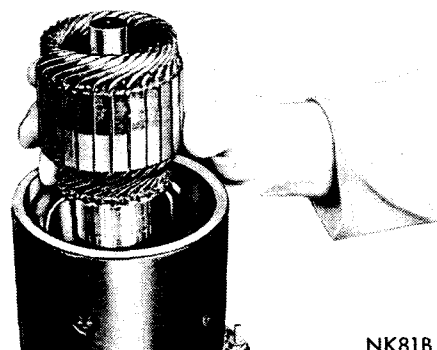

Fig. 31—Installing Armature
- (18) Position field frame to the exact position on gear housing and enter armature into field frame and starter gear housing (Fig. 31) carefully engaging splines of shaft with reduction gear by rotating armature slightly to engage the splines.
- (19) Install thrust washer on armature shaft.